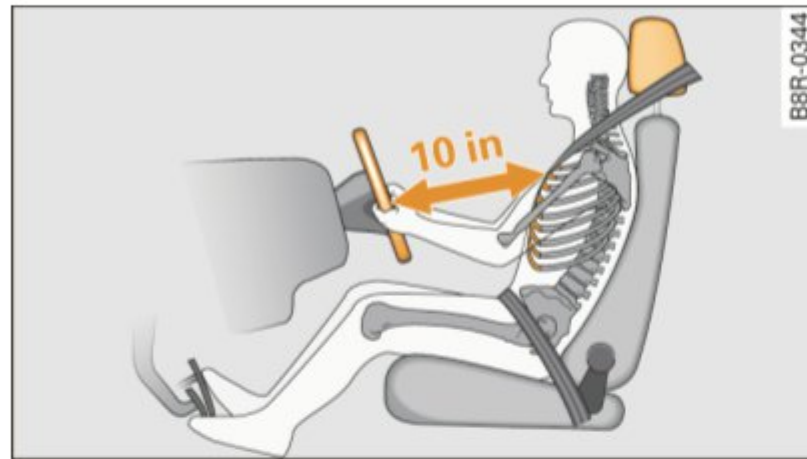

Fig. 122 Correct seating position
- Adjust the steering wheel so that there is a distance of at least 10 inches (25 cm) between the steering wheel and your breast bone ⇒ fig. 122. If not possible, see your authorized Audi dealership about adaptive equipment.